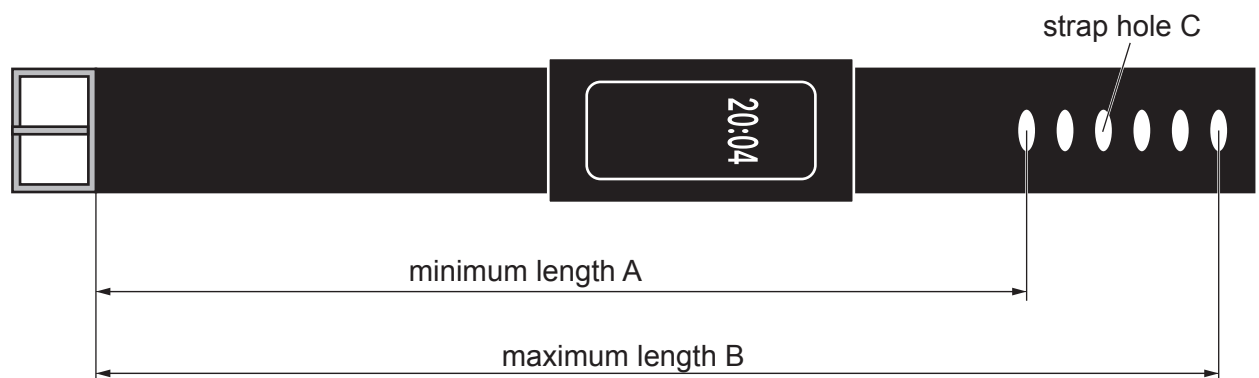

Fig. 2.5
Fig. 2.5 shows an illustration of the fitness tracker strap.
- (ii) **Fig. 2.5** shows six strap holes equally spaced. Calculate the length of the fitness tracker strap in cm to **2** decimal places if the user sets it to strap hole C. Show your working. **[3]**